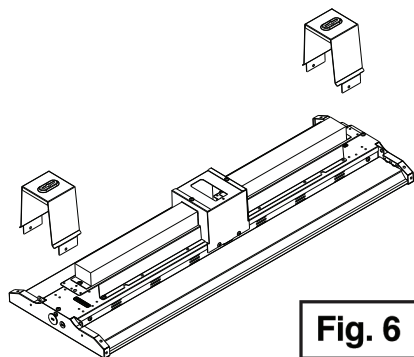

Fig. 6
1. Install surface mount bracket onto the fixture and secure it in place with provided screws. **(Fig. 6)**